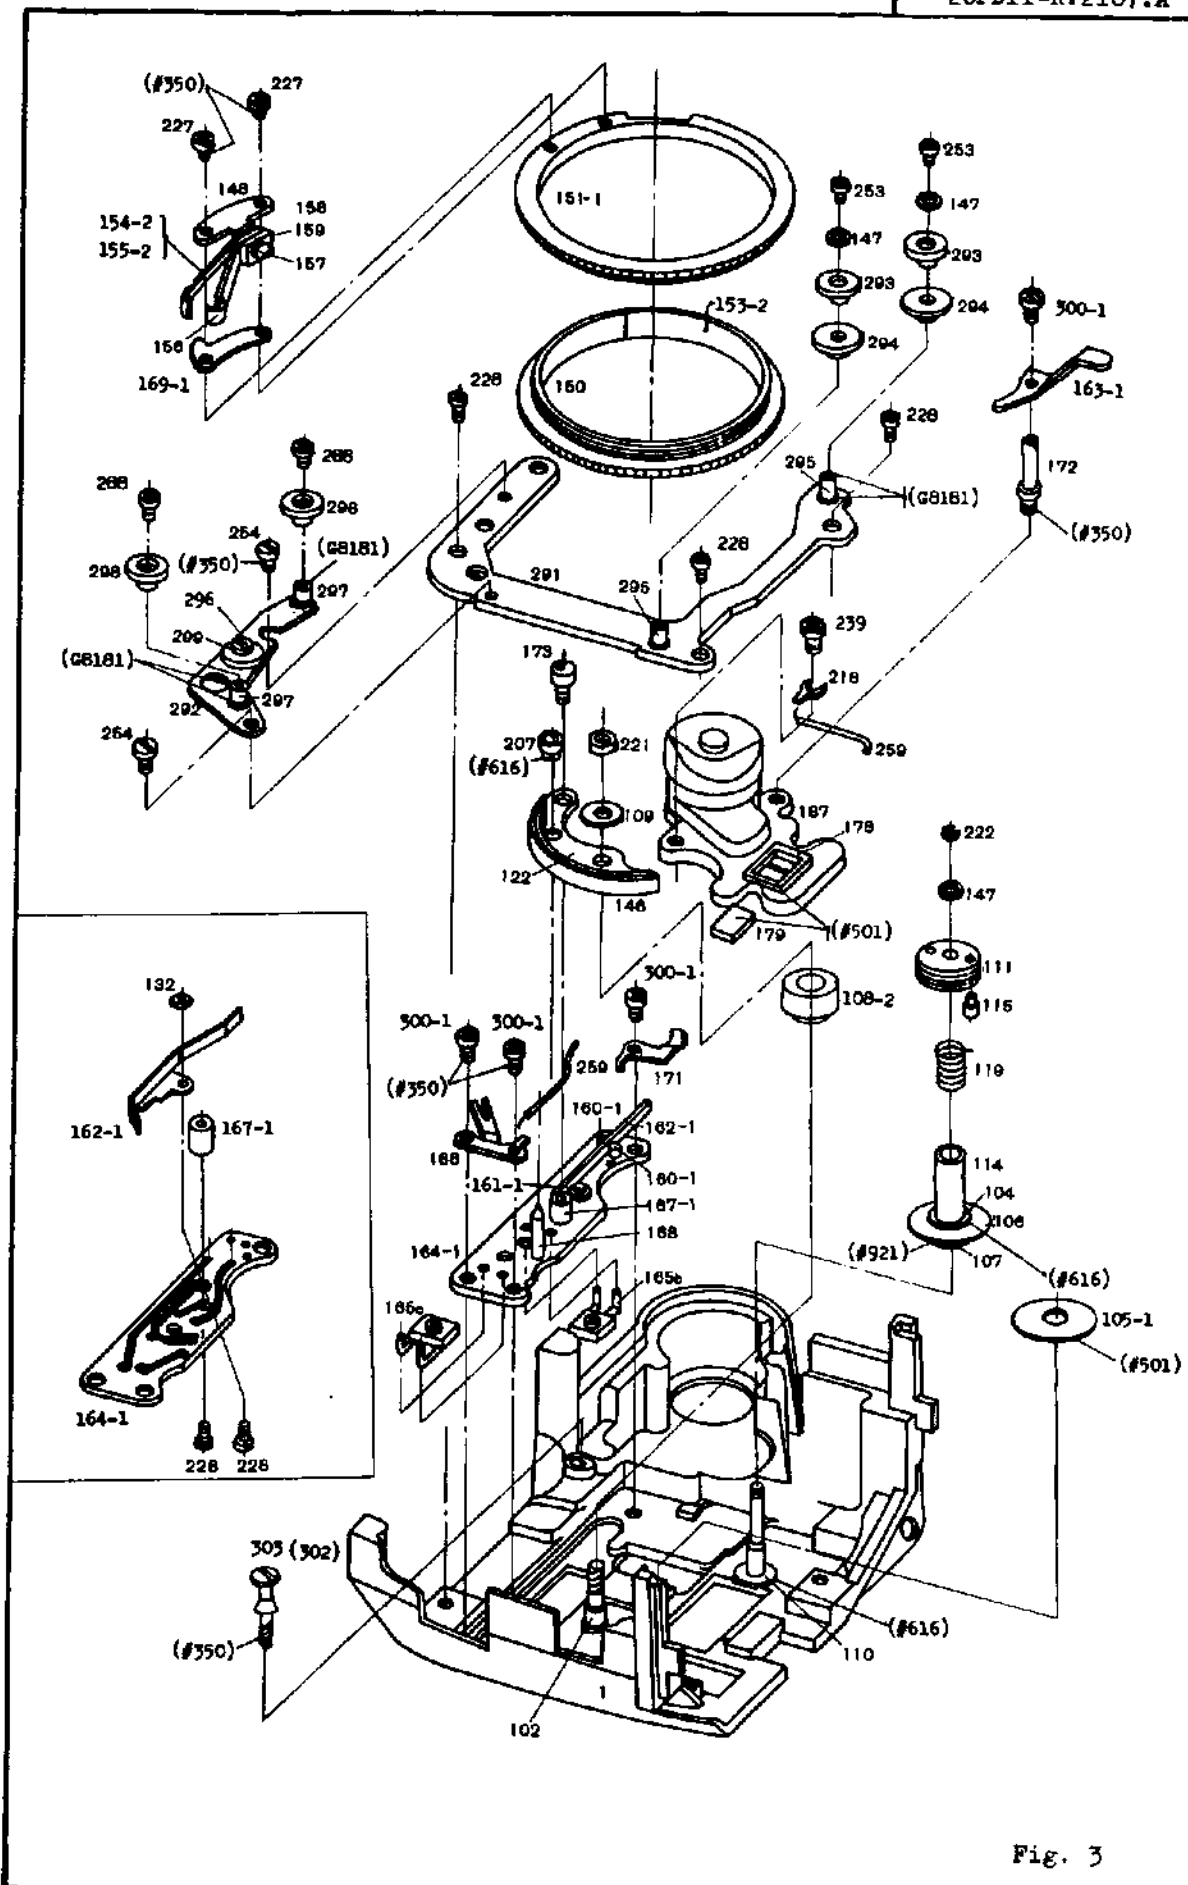

Fig. 3
7.3 Resistor unit and its related parts (Fig.3)